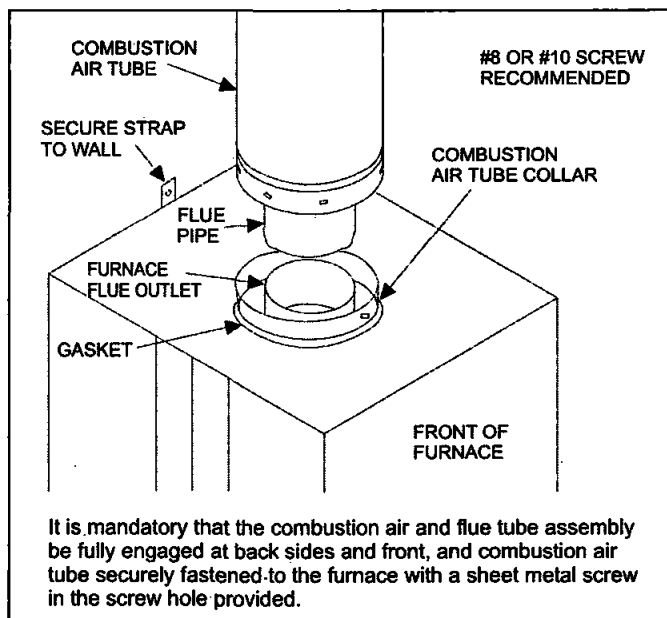

FIGURE 23: Connecting Roof Jack to Furnace
2. Pull the telescoping flue tube and combustion air tube assembly down from the roof jack. Slide the flue tube/combustion air tube assembly down firmly over the furnace flue outlet and combustion air collar. Insure that the back, side and front of combustion air tube collar is fully engaged and is in contact with gasket. Fasten the combustion air tube to the furnace combustion air collar using a 1/2 inch sheet metal screw. (Screw hole provided in combustion air tube and furnace combustion air collar. See Figure 23).